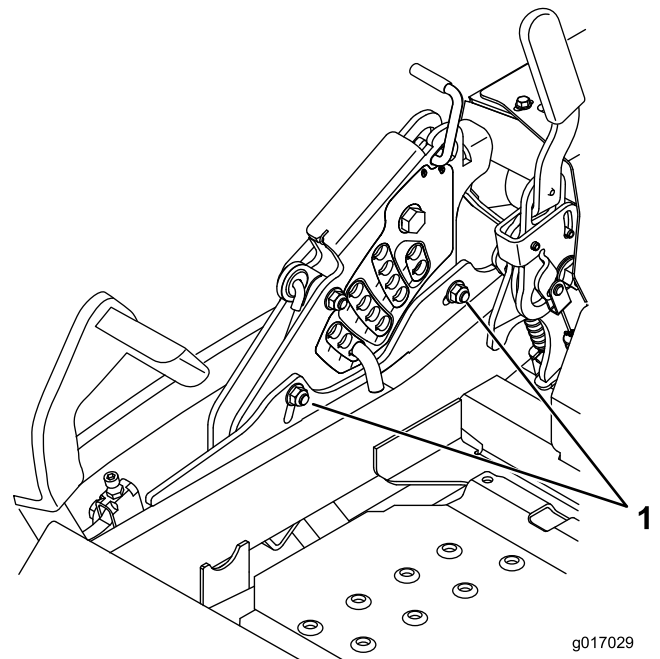

Figure 93
- To adjust the single point system, loosen the two bolts at the bottom of the height of cut plate. Refer to Figure 93.
13. Tighten the two bolts at the bottom of the height of cut plate (Figure 93). Torque to 37-45 N-m (27-33 ft-lb).